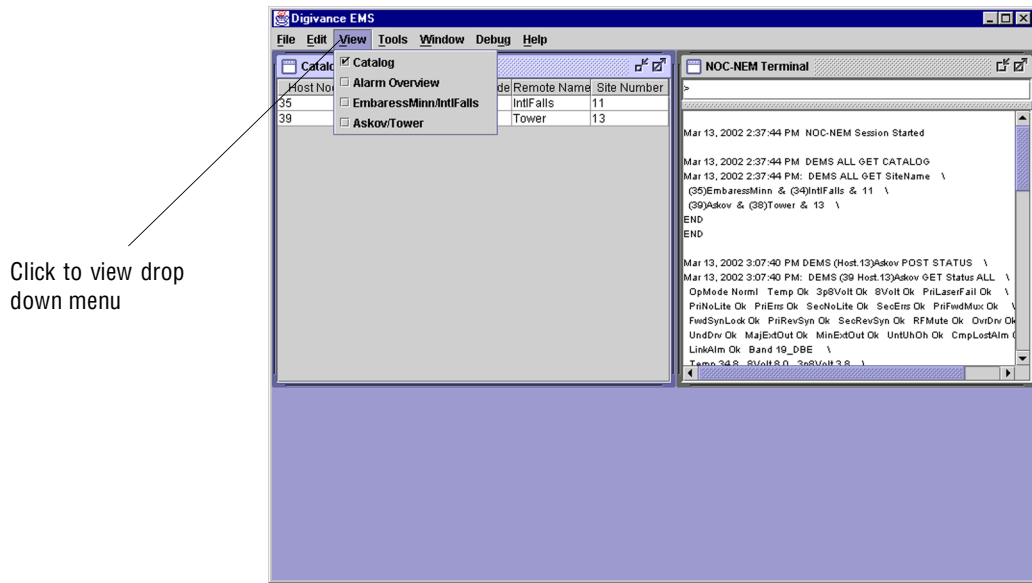

Figure 4-1. Digivance Element Management System Main Window
8. Start up the DEMS software program. The DEMS main window will open as shown in Figure 4-1. Note: The DEMS software should be installed on a PC-type computer and the PC's COM port should be configured to interface with the HU. For information about installing the DEMS software and configuring the PC's COM port, refer to the Digivance Element Management System Software User Manual (ADCP-75-125).